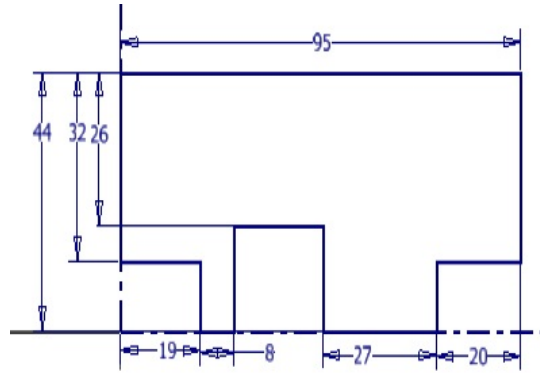

Figure 15-93 Sketch of the top face of the Holder Clip
4. Draw the sketch of the top face of the Holder Clip, as shown in Figure 15-93.
In Figure 15-93, grid lines are hidden for the sake of clarity of the sketch.